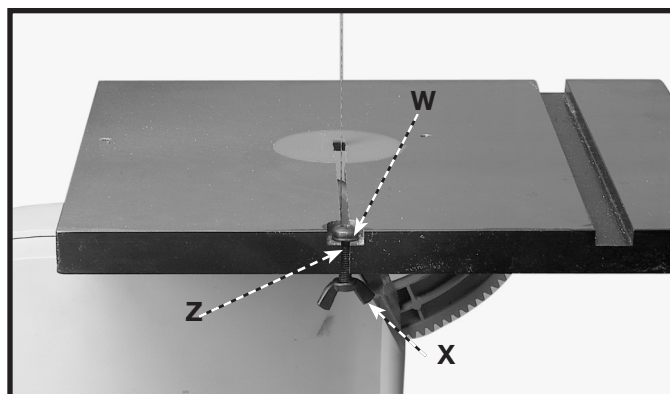

Fig. 17
- Remove the keeper screw, washer and wing nut from the table slot (see Fig. 17 detail). Be careful not to lose these parts.
10. Re-assemble the screw (W) Fig. 17 that was removed in **STEP 2**, down through hole in table. Place the M6 flat washer (Z) on the M6 x 30mm screw, then thread the M6 wing nut (X) on the screw (W) and tighten securely.